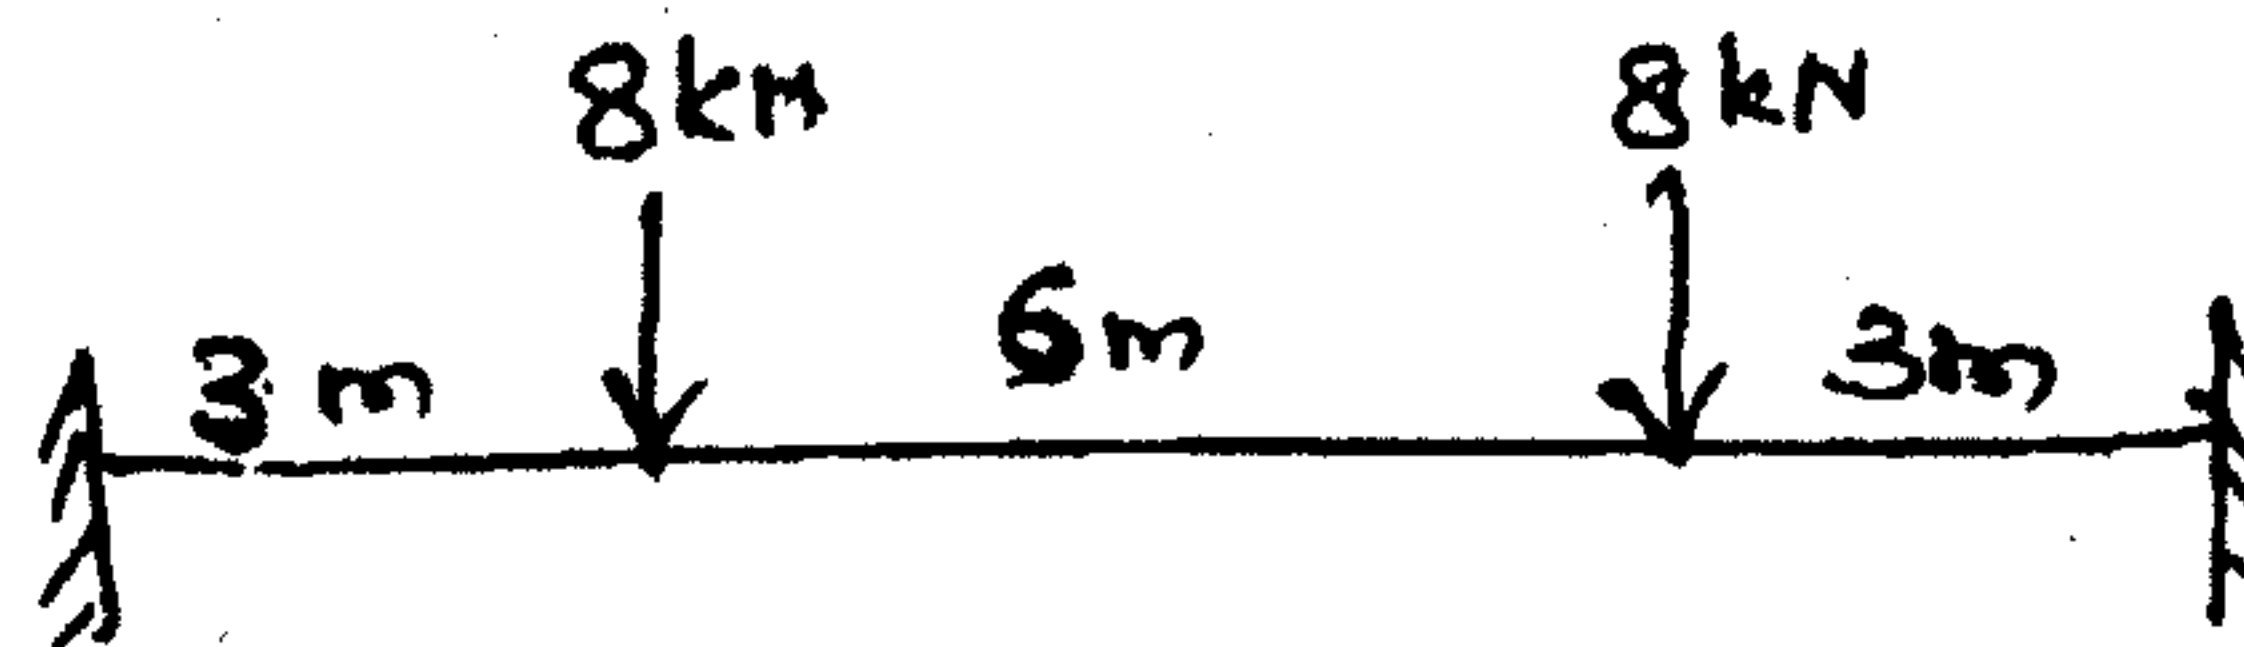

Fig. 12 (a)
12. (a) A fixed beam of span 12m is subjected to two concentrated loads as shown in Fig 12(a). Find the fixed and moments and also draw the bending moment diagram and mark the salient points.